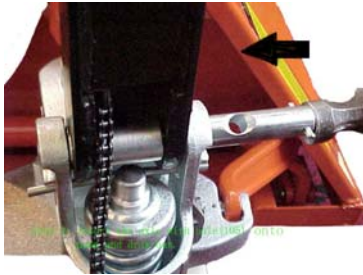

Fig. 2
2.1 Insert the draw-bar onto the pump piston (303), then use a hammer to insert the axle with hole (105) into the hydraulic pump and draw-bar **from the right to left**. (See fig. 2).